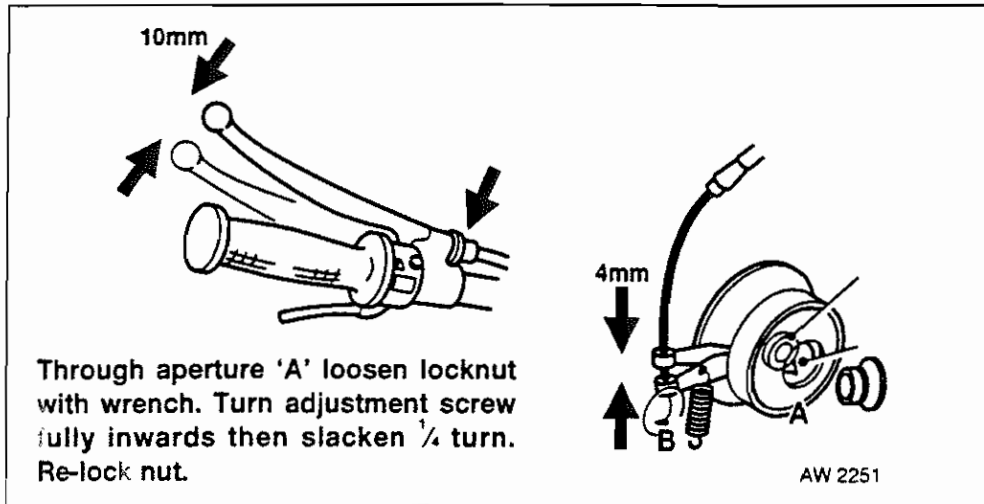

Fig 2.39 Clutch Adjustment Points
- d. Turn adjusting screw clockwise until it bottoms, then back off counter clockwise $\frac{1}{4}$ turn. While holding screw in this position, tighten the lock nut. Fig 2.39 refers.